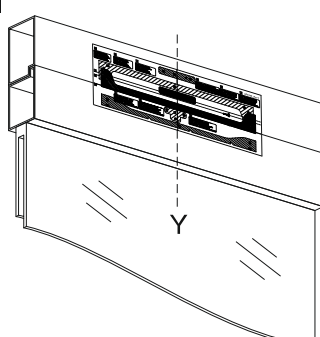

Fig. 23
- 4) **Fig. 23-** With a suitable drill, create on the window frame holes having the related diameter, given on the template;